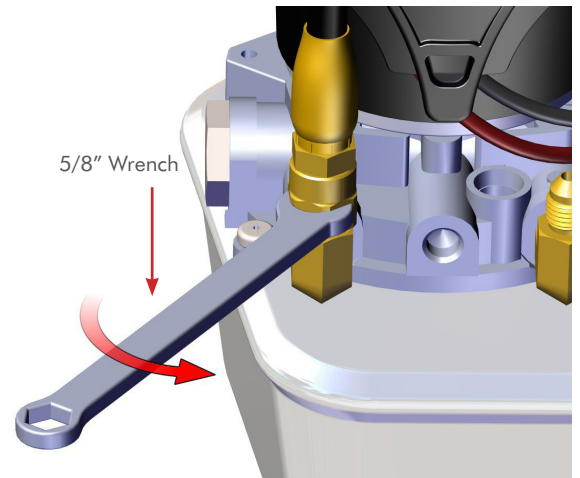

Figure 1
STEP 3 Disconnect the (UP) hydraulic hose from (HPU) hydraulic pump system. **(FIG. 1)**